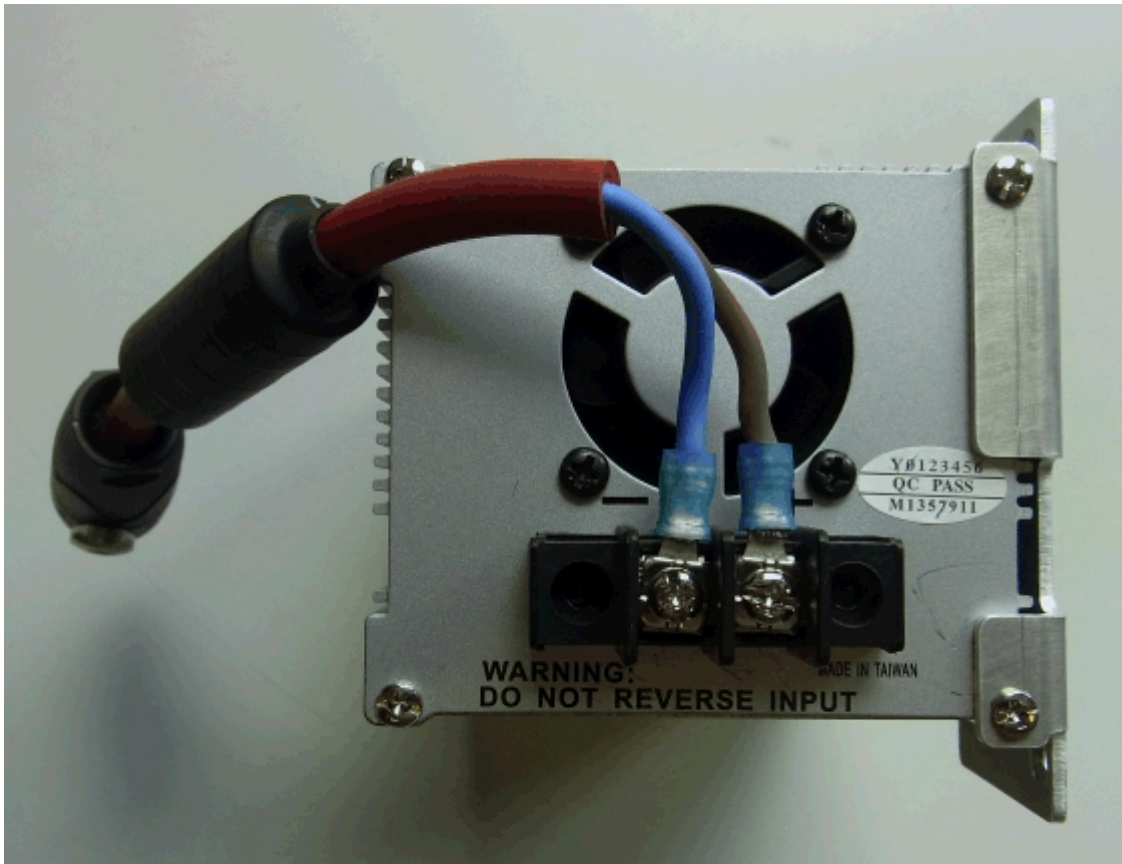

Fig. 1-1: Connecting the new DC power cable to the DC power supply
2. Connect the new DC cable to the DC power supply as shown in figure 1-1. Be sure to connect the cables in the correct order!